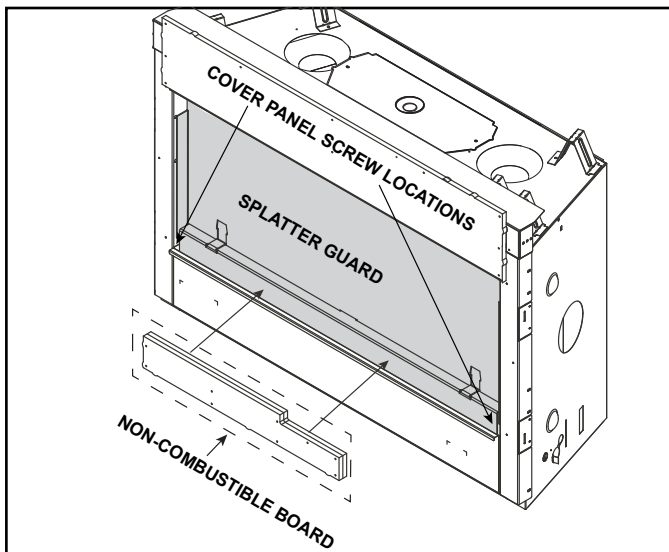
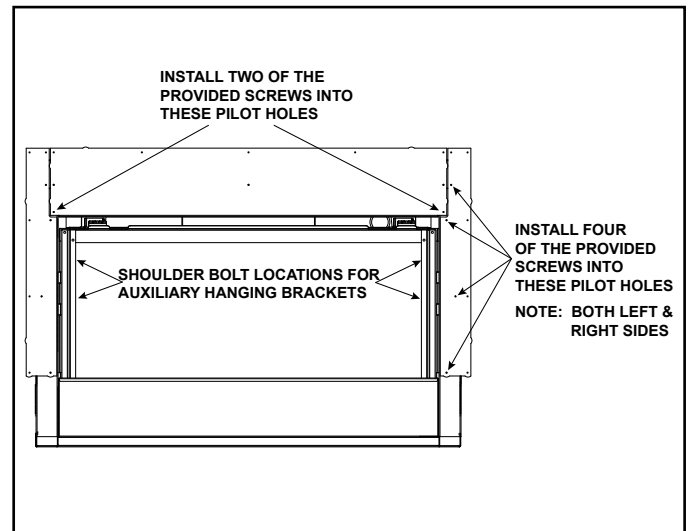
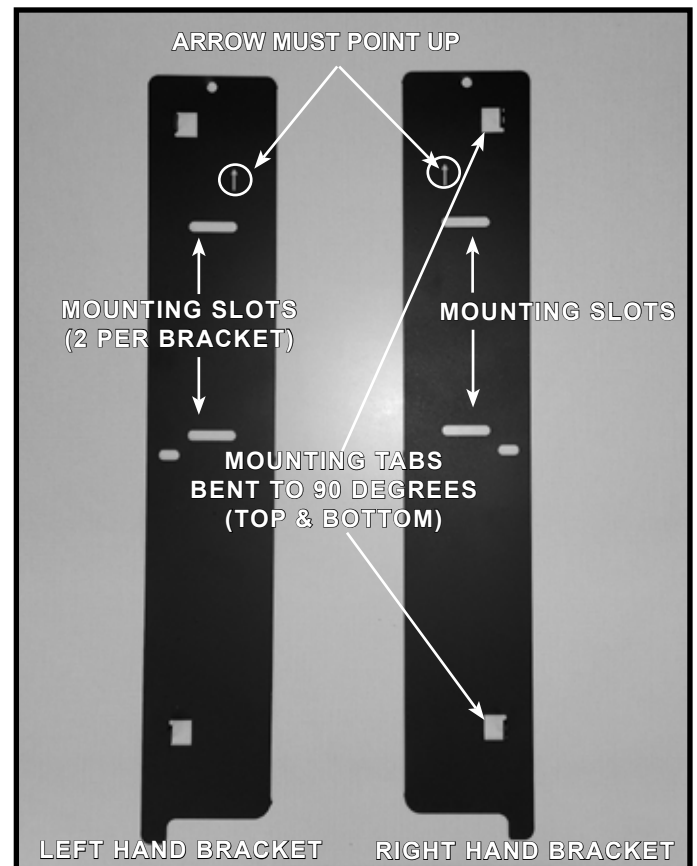

Figure 6.7 Shipping Position - Non-Combustible Sides and Auxiliary Hanging Brackets
Figure 6.8 Installation of the Side Non-Combustible Components
Figure 6.9 Auxiliary Hanging Brackets - Bent For Installation
This model ships with the required top, left and right non-combustible board. The top non-combustible board has been pre-installed at the factory with three screws. The left and right side non-combustible boards are shipped next to the non-combustible board inside the cardboard splatter guard in front of the appliance. See Figure 6.7.
4. Further secure the top non-combustible board by installing screws into the pilot holes located in the upper left and right corners of the top non-combustible board as shown in Figure 6.8.
5. Install the left and right non-combustible components with four of the provided Phillips screws. See Figure 6.8. After all non-combustible material has been installed, remove the small package of sheet metal screws from the manual bag. Reinstall the lower cover panel. Be sure to "hook" it onto the appliance. Use two screws from the package to fasten the top sides of the cover panel to the appliance. The holes from the cover panel should align with the holes in the sides of the appliance. See Figure 6.7.
1. Loosen both shoulder bolts on each auxiliary hanging bracket. See Figure 6.8 and Figure 6.9. Pull the brackets away from the appliance to aid with finishing material installation.